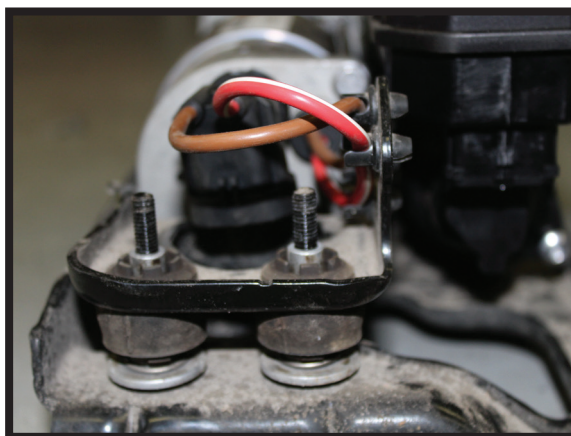

FIGURE 15
2. WHEN MOUNTING THE NEW COMPRESSOR, MAKE SURE THAT THE POWER SUPPLY CABLES (POSITIVE AND NEGATIVE) DO NOT TOUCH EACH OTHER. (FIGURE 15)